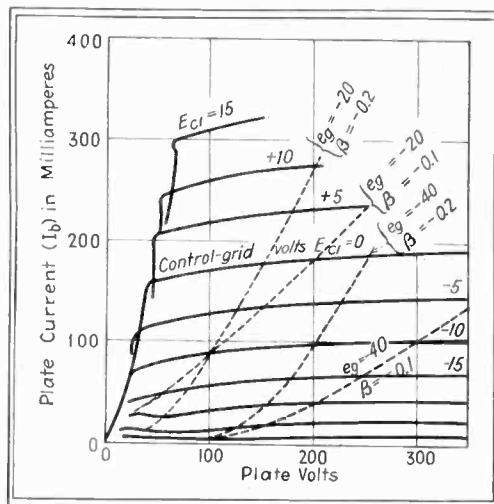

Fig. 2—Static curves of 6L6 (solid lines) with dotted construction lines for various feedback ratios and bias
one grid voltage curve for every plate voltage step taken, without having to calculate each point separately. The grid curves shown in Fig. 2 are plotted in steps of 5 volts. If we take β as -0.1 , Eq. (4) shows that the plate voltage steps have to be taken in steps of 50 volts each. If β is taken as -0.2 , ΔE_b becomes 25 volts. The dashed lines are the resulting feedback characteristics